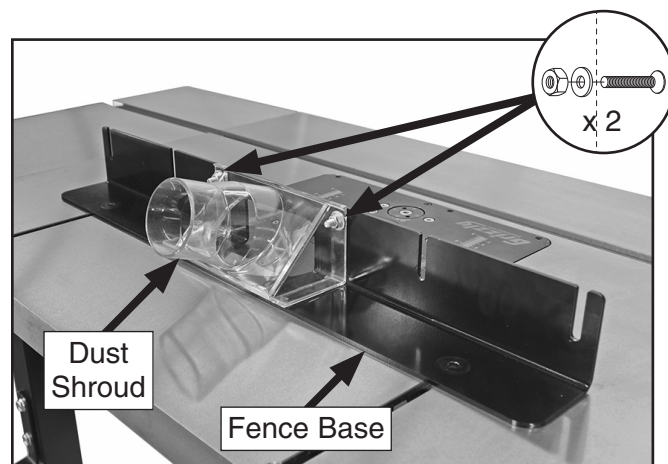

Figure 20. Dust shroud attached to fence base.
12. Attach dust shroud (see **Figure 20**) to back of fence base with (2) $\frac{1}{4}$ "-20 x $\frac{5}{8}$ " flat head screws, (2) $\frac{1}{4}$ " flat washers, and (2) $\frac{1}{4}$ "-20 hex nuts.